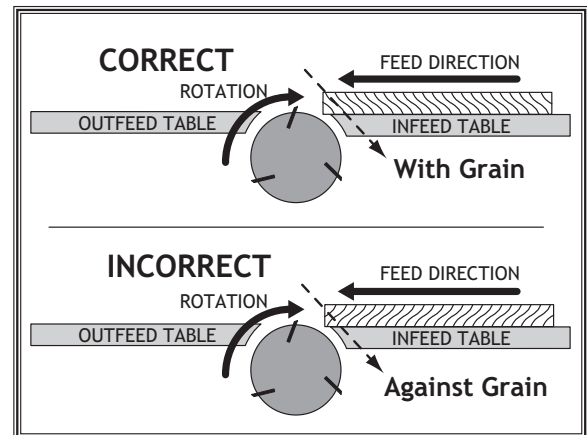

Figure 18. Proper grain alignment with cutterhead.
- **Jointing and surface planing with the grain produces a better finish and is safer for the operator.** Cutting with the grain is described as feeding the stock on the jointer so the grain points down and toward you as viewed on the edge of the stock (see Figure 18).